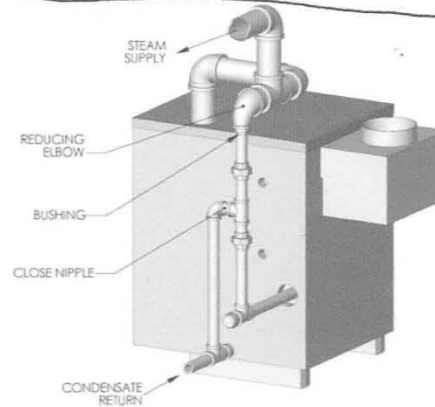
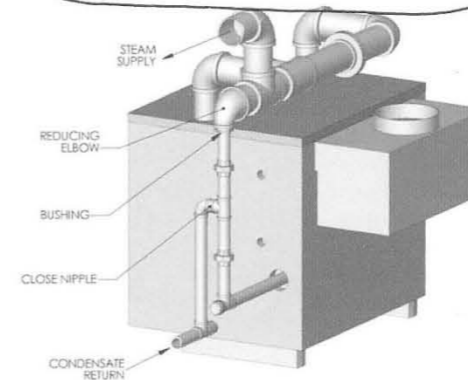

Figure 4.3: Steam Piping – Single Supply Connection
Figure 4.4: Steam Piping – Dual Supply Connections
2. Install steam supply pipes as shown in Figure 4.3 for Model 63-03 to 64-07 and Figure 4.4 for Model 64-08 to 64-12. The minimum quantity and size of supply pipes are indicated in Table 4.1.
5. Connect the equalizing line as shown in Figure 4.3 or 4.4 assuring that the reducing elbow is facing down and that any bushings are vertical to prevent water build-up in the steam header.